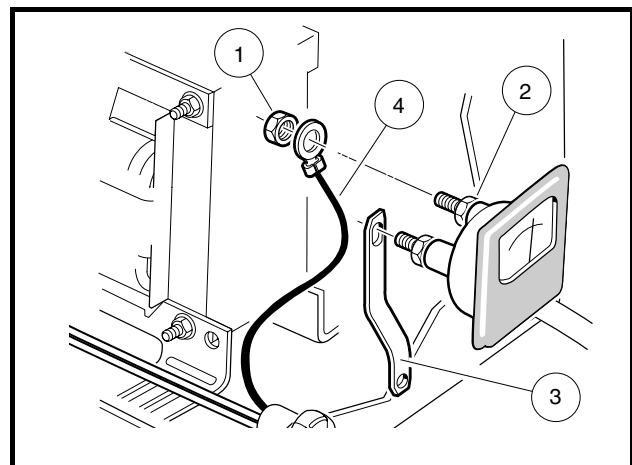

Figure 14-19 Charger Cord Installation
3. Remove the black lead of the charger DC cord (4) from the ammeter by loosening the nut (1). Support the terminal as the nut is loosened to prevent rotation of the connection (**Figure 14-19, Page 14-20**).
4. Attach the black lead of the new cord to the ammeter. Install nut (1) onto post of ammeter slightly more than finger tight. While holding the outside nut (1), turn the inside nut (2) counterclockwise 1/4 turn (**Figure 14-19, Page 14-20**). See following **CAUTION**.